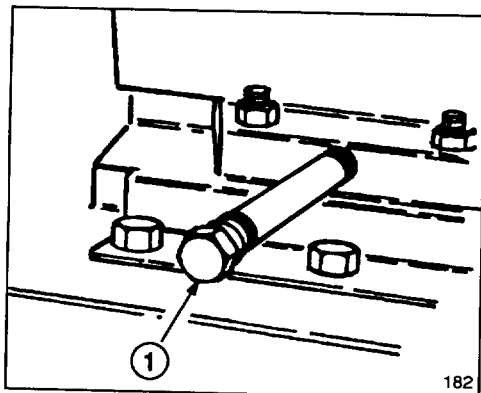

**Figure 24**
1. Annually lubricate drive chain with chain lubricant (Fig. 24). Wipe up any excess oil.